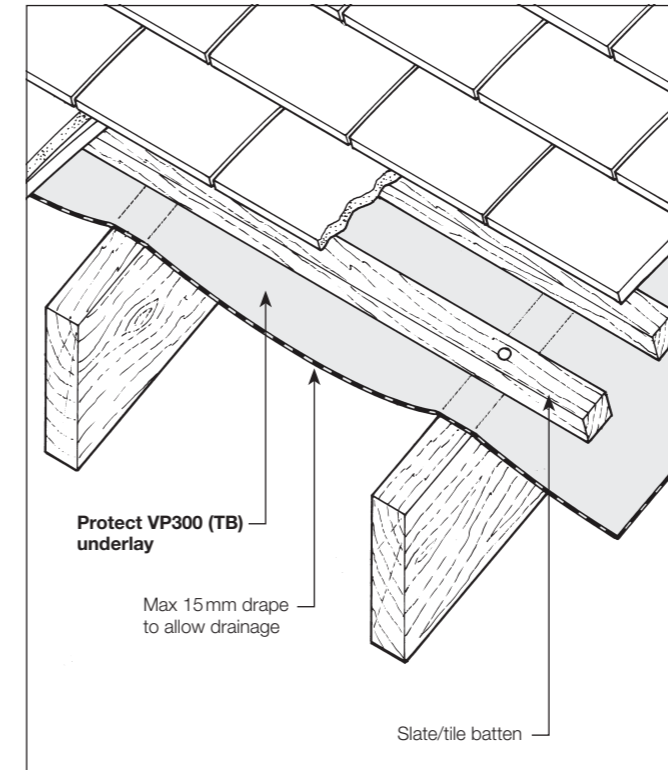
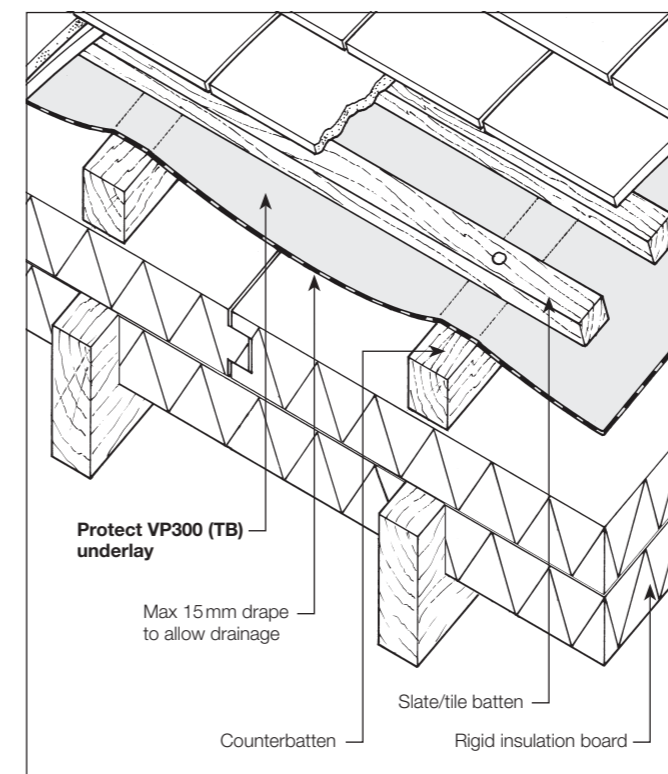
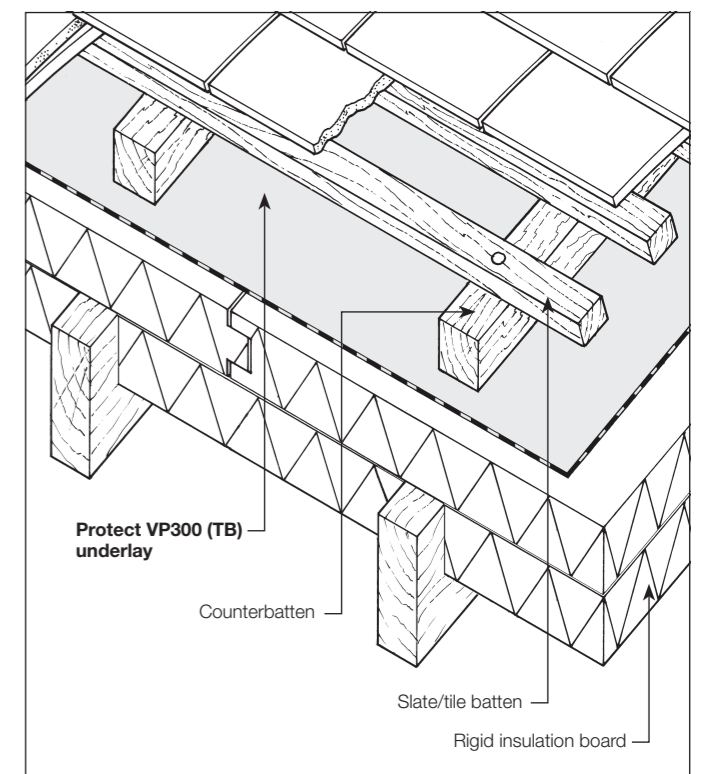

Figure 1.
Figure 3.
Figure 4.
- Protect VP300 (TB), a vapour permeable underlay, may be used for cold roofs with ventilated or unventilated loft spaces (see Figs 1 and 2) or warm roofs with insulation between and or above rafters (see Figs 3 and 4).
- In accordance with good building practice, this product should be covered as soon as possible after installation and preferably not more than one month after initial exposure. Within this period, when correctly installed, Protect VP300 (TB) will provide temporary protection against rain prior to installation of slates or tiling. If the exposure period exceeds one month then advice must be sought from the Glidevale Protect Technical department.
- Do not lay Protect VP300 (TB) in contact with any undried timber preservative (whether water or solvent based).
- Fix Protect VP300 (TB) using extra large clout nails of copper, aluminium alloy or galvanised steel, 20 mm x 3.5 mm or stainless steel staples.
- Protect VP300 (TB) can be easily cut with a sharp knife and remains flexible at all normal working temperatures.
- Lay Protect VP300 (TB) with minimum laps shown in table below.
If the ceiling is well sealed, as defined in BS 5250, condensation can be controlled by the use of Protect VP300 (TB) with no additional ventilation. Protect VP300 (TB) can be laid draped unsupported (see Fig 3) or fully supported on insulation (see Fig 4). To ensure the integrity of a well sealed ceiling, a separate air and vapour control layer such as Protect VC Foil Ultra, is recommended to be used on the warm side of the insulation.